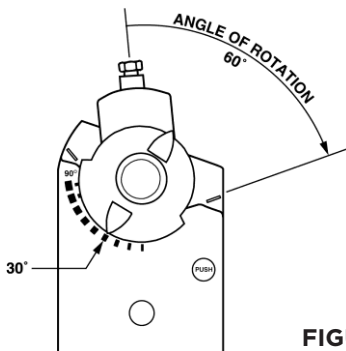

FIGURE 16
5. Remove the shaft adapter and insert it with the position indicator pointing to mark on the scale calculated in the previous step. Figure 16.